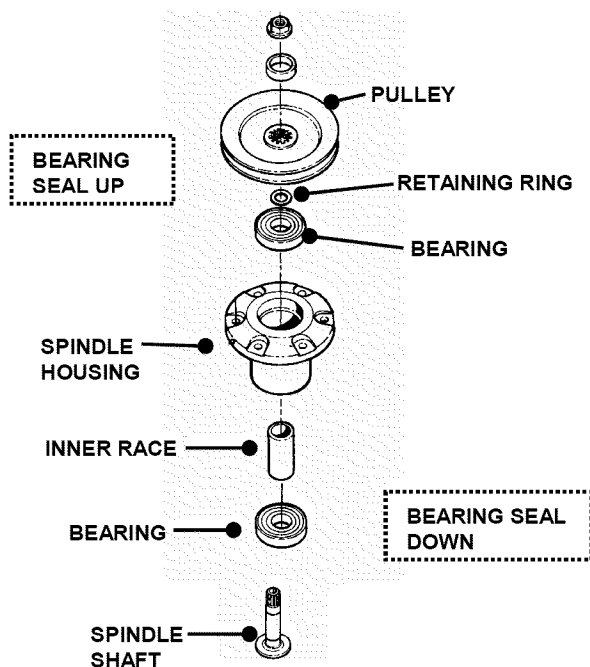

FIGURE 3.10
4. Top and bottom bearings are now removable. Pull out on inner race to slide bearing from housing. See Figure 3.10.